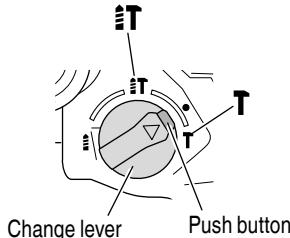

Fig. 20
- (1) Mount the bull point or cold chisel.
- (2) Press the push button and set the change lever to middle of **IT** mark and **T** mark (Fig. 20).